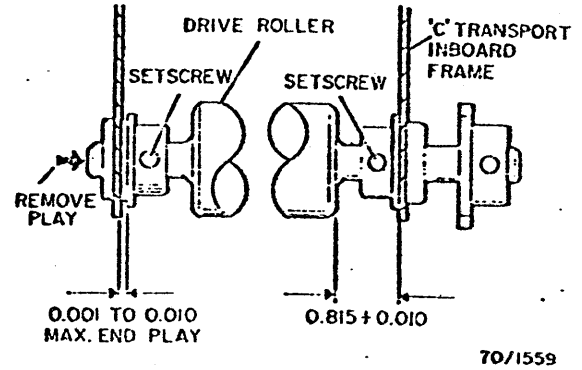

Fig. 3-205. Drive Roller
1. With the C transport assembly out of the machine, adjust the drive roller in accordance with Fig. 3-205.